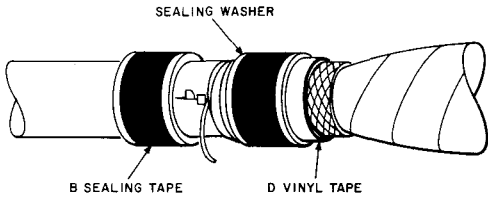

Fig. 16—Sealing Washers in Place
**3.24** Position the outer washers on the outer seal and the inner washers on the inner seal, butted against the B sealing tape, as shown in Fig. 16. Rotate the washers at the ends of each seal so that the slits are 180 degrees apart and coincide with the flange level of the splice case. Then wrap a collar of D vinyl tape about 1/2 inch wide around the inner jacket, closing the opening between the sheath and the sealing washer.